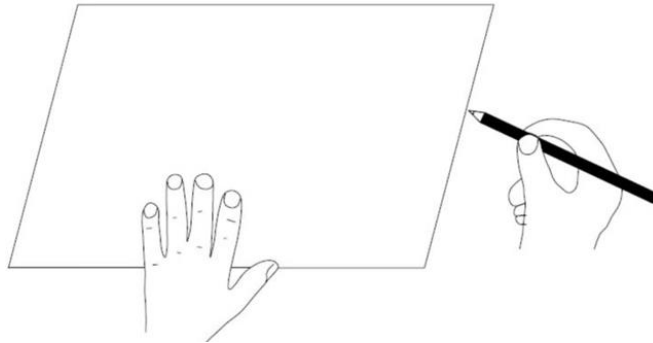

Fig. 4
3. Use the cut-out template card as a template. Place in the required location and mark out the hole cutting size: 325mm x 470mm. Before commencing cutting ensure that the area behind the intended location is clear of all cables, pipes and joists. Once clear, cut out the section along the previously marked lines. (Fig. 4)